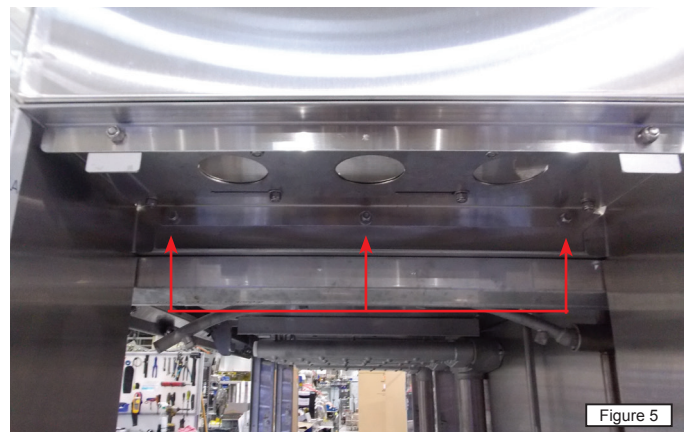

Figure 5
7. Remove the three screws connecting the ventilation cowl assembly to the hood top. (see figure 5)